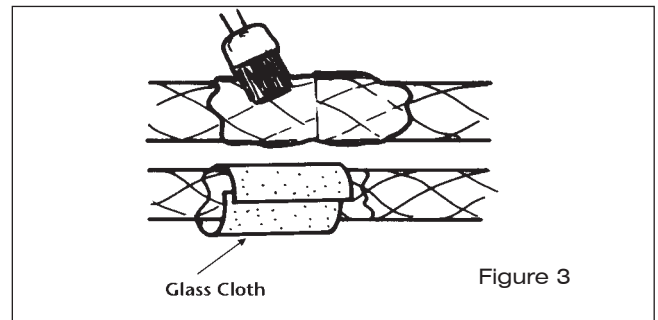

Figure 3
- Using a paint brush, apply a liberal coat of the mixed resin to all sanded areas (see Fig. 3). Remove any bristles that may have worked loose from the brush.